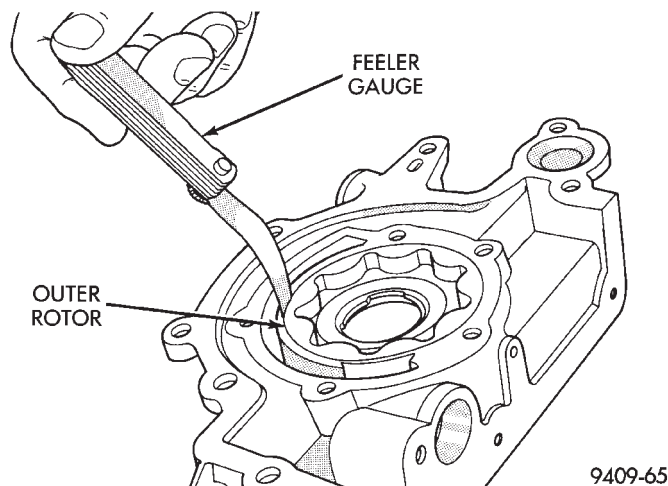

Fig. 105 Measuring Outer Rotor Clearance in Housing
(5) Slide outer rotor into pump housing, press to one side with fingers and measure clearance between rotor and housing (Fig. 105). If measurement is 0.39 mm (0.015 inch.) or more, replace housing only if outer rotor is in specification.